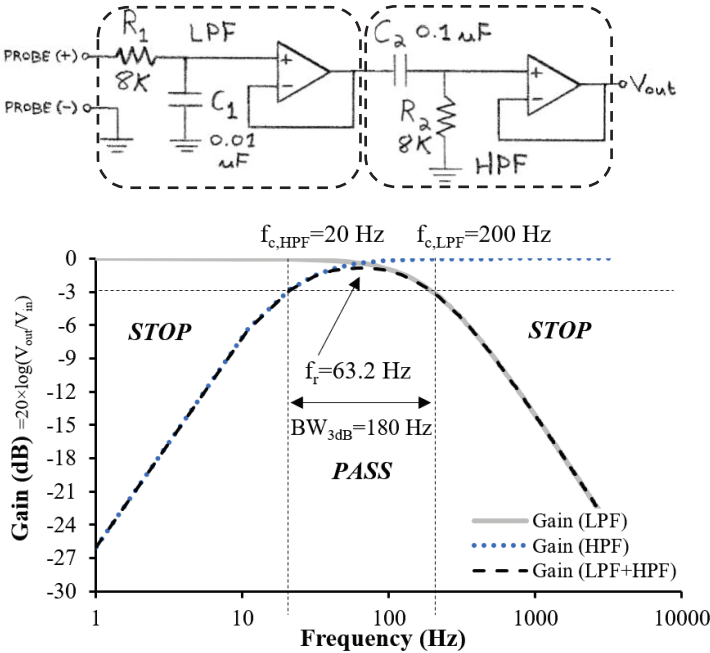

Figure 8-10. An example band-pass filter (top) and corresponding Bode Magnitude Plot (bottom).
If you combine a low-pass filter with a high-pass filter, you can build a filter that only lets a narrow band of frequencies pass through. This is called a **band-pass filter**. A simple band-pass filter combines an LPF in series with an HPF. The HPF has a lower cutoff frequency than the LPF. The math is the same, you just need to do it twice. A circuit diagram and example Bode Magnitude Plot are provided in Figure 8-10.
For the example in Figure 8-10:
The calculated bandwidth and resonant frequency are shown in Figure 8-10.
**Test your understanding:** If you swapped the positions of the LPF and HPF in Figure 8-10, would it change the Bode Magnitude Plot?
You could use the same configuration in Figure 8-10, but with the appropriate resistor and capacitor values, plan the high-pass filter to have a higher cutoff frequency than the low-pass filter. This would result in a **stop-band filter**, the inverse of a band-pass filter. A stop-band filter attenuates frequencies *within* a narrow band, taking a “notch” out of the Bode Magnitude plot (for example, 50 or 60 Hz noise from an AC power supply).